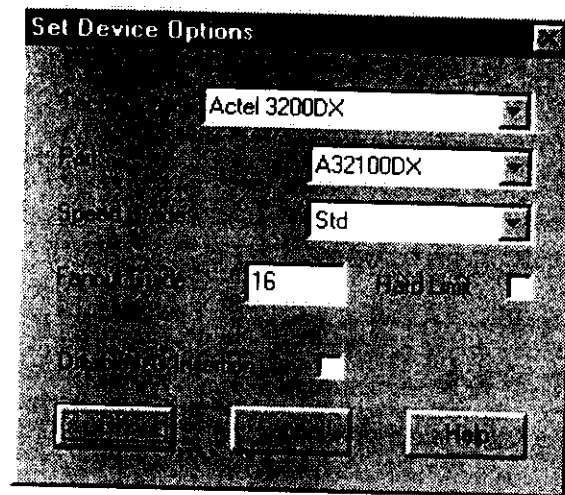

Figure 8. Synplify's Target Set Device Options Window for Top-Level Synthesis
5. Select the 32100DX device but DO NOT disable I/O insertion as shown in Figure 8.	Since this is the top level design, we want to insert I/O macros. Otherwise, the final EDIF netlist will not import into Actel's Designer.